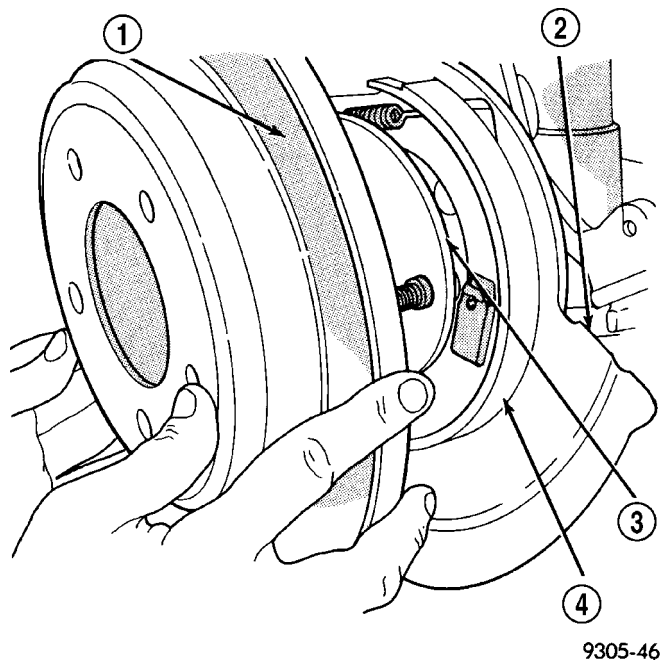

Fig. 43 Removing / Installing Rear Rotor
(6) Remove the rear rotor from hub by pulling it straight off the wheel mounting studs (Fig. 43).